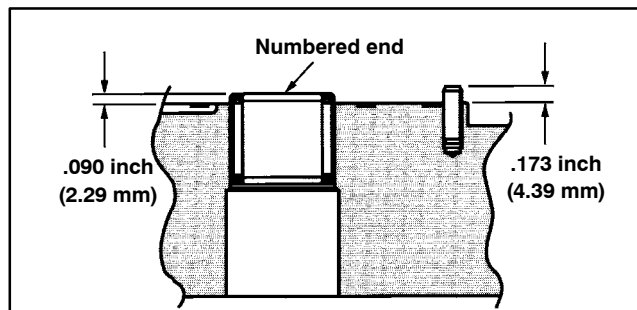

Figure 47
A. Check the bearing (45) (press fit) in backplate (20). If needles remain in cage, move freely, and setting is at the dimension shown in Figure 47, bearing removal is not required.
B. Check roll pin (38) in backplate (20). If tight and set to the dimension shown in Figure 47, removal not required.
5. Install new seal washer (4), washer (29), and jam nut (1) to servo piston bolt. Holding servo piston bolt with hex key wrench, torque jam nut from 150 to 160 in-lb (17 to 18 N-m). Check the centering of servo piston assembly (7). Install new cover plate gasket (33) and cover plate (9) to open side of servo piston and retain with four washers (31) and socket head screws (5). Torque screws from 40 to 48 in-lb (4.5 to 5.4 N-m).
6. Press dowel bushings (40) into cradle and secure bushing (44) onto cradle with button head cap screw (43). Torque button head cap screw from 14 to 16 in-lb (1.6 to 1.8 N-m).
7. Place cradle sub-assembly (41) into housing (19) making sure dowel bushings (40) and cradle (41) are completely seated into housing. Retain cradle sub-assembly with two cap screws (42) after applying Loctite #277 (or equivalent) to the end of threads. Torque cap screws from 25 to 28 ft-lb (34 to 38 N-m).
8. Place exterior retaining ring (3), thrust race (12), thrust bearing (13), second thrust race (12), and second retaining ring (3) onto drive shaft (21). Position washer (24) and shaft seal (25) onto shaft.
9. Install shaft assembly into front of housing. Seat seal (25) into position with seal driver and retain with interior retaining ring (2).
10. Install servo piston follower (8) onto camplate dowel pin. Install camplate (11) carefully onto bushing (44) (coat bushing surface with hydraulic oil), aligning servo piston follower (8) with slot in servo piston assembly (7).
11. Position housing in a horizontal position. Holding camplate (11) in position with screw driver through controller linkage passageway at the top of housing, place rotating kit assembly (6) over shaft and into housing until pistons are against camplate (11). Make sure all parts are in housing completely and are properly positioned. Return the pump to the vise with open end of housing up, clamping housing on the outer portion of the flange.
12. Install gasket (32) onto housing.
13. If necessary, press new bearing (45) and roll pin (38) in backplate (20) to dimension shown in Figure 47. Note: Bearing should be installed with the numbered end outward. Roll pin should be installed with split oriented away from bearing.
15. Install new o-ring on bypass valve (14). Install bypass valve (14) into backplate (20). Note: Make sure paddle of bypass valve is perpendicular to relief valve axis prior to installing or damage could result.
16. Apply a small amount of petroleum jelly to the steel side of valve plate (18) to hold in place for installation. Aligning the index pin, place the valve plate (18) in position onto the backplate (20), with steel side against backplate.
17. Install backplate assembly (20) onto housing assembly (19). Make sure ports are positioned correctly, and that valve plate (18) and gasket (32) stay in place.
18. Retain backplate (20) with four cap screws (15). Torque cap screws from 27 to 31 ft-lb (37 to 42 N-m).
19. Install control housing gasket (34) onto housing. Install orifices (30) into servo control assembly (28) and retain in position with petroleum jelly. Position the feedback link at 90 degrees from control housing. Install manual servo control assembly (28) onto housing making sure feedback link entered small groove in servo piston assembly (7).
20. Secure control assembly with six socket head screws (17). Torque screws from 40 to 48 in-lb (4.5 to 5.4 N-m).
21. Install control arm (27) onto control assembly input shaft. Retain with lock washer (23) and nut (22). Torque nut from 4 to 6 ft-lb (5 to 8 N-m).